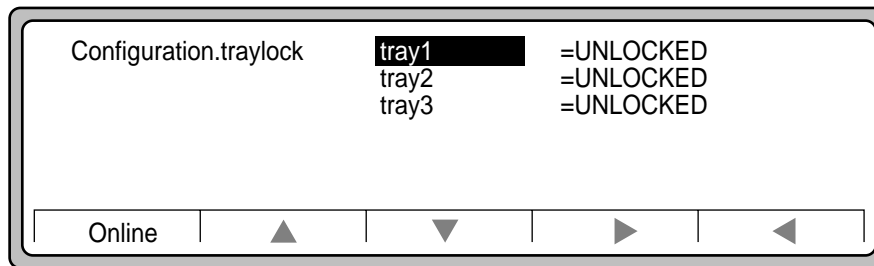

Figure 3-28 Configuration.traylock
- Press ▲ or ▼ to move to the tray to lock (Figure 3-28).